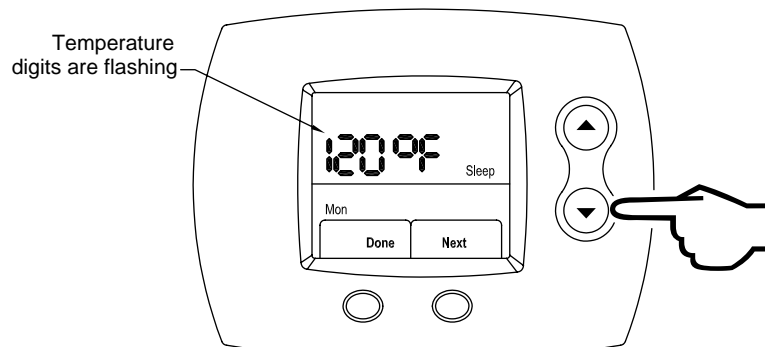

Figure 100
Step 26: Using the **UP** (increase water temperature) or **DOWN** (decrease water temperature) buttons, select the Sleep period desired water temperature. This is shown in Figure 100.